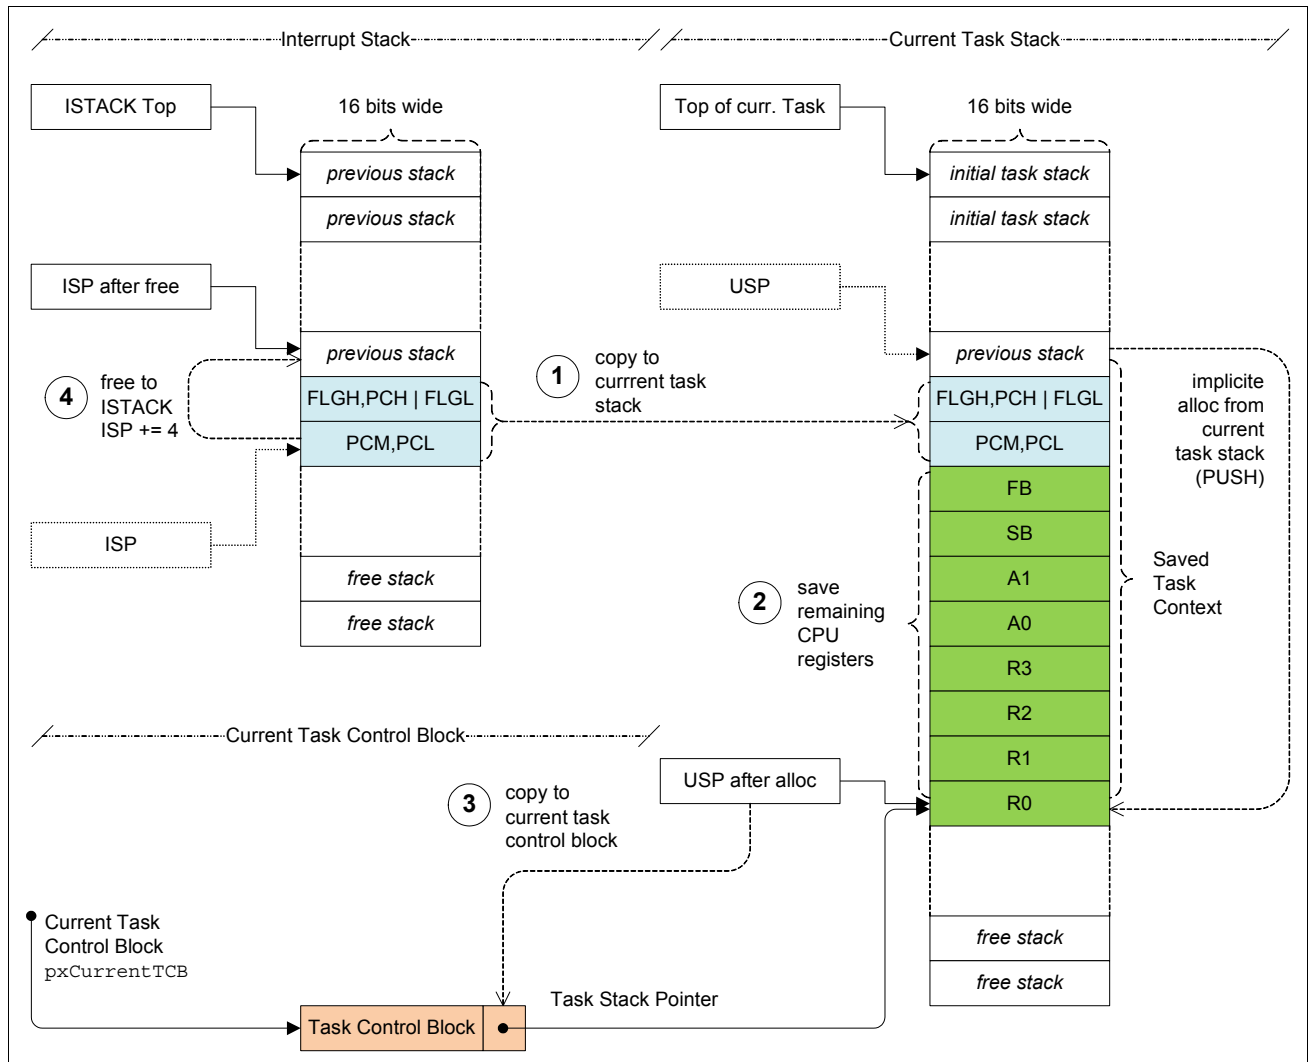

Figure 3 Task context saving
- Save the context of the interrupted running task. See Figure 3.
The context of the current task is to be saved on the current task stack. This is done in four steps as also shown in Figure 3:
- The flag state and program counter saved on the interrupt stack during the interrupt execution sequence must be moved to the current task stack. This is most simply done by `PUSH` instructions with the U flag set because this implicitly allocates the required space from the task stack. (Marked with circle with number 1 in Figure 3)
- Save the remaining CPU registers on the task stack, using a `PUSHM` instruction. (2 in Figure 3)
- Now USP needs to be saved in the current task control block to be restored, when the this task is switched in again. (3 in Figure 3)
- The flag state and program counter on the interrupt stack are no longer used and need to be freed from the interrupt stack. (4 in Figure 3)
Find the assembler code below which implements step 1-4 shown in Figure 3.